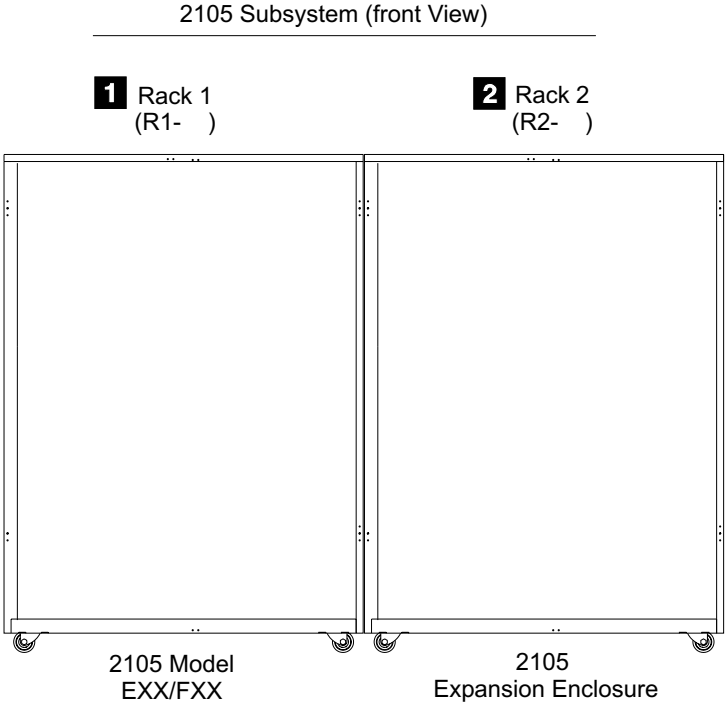
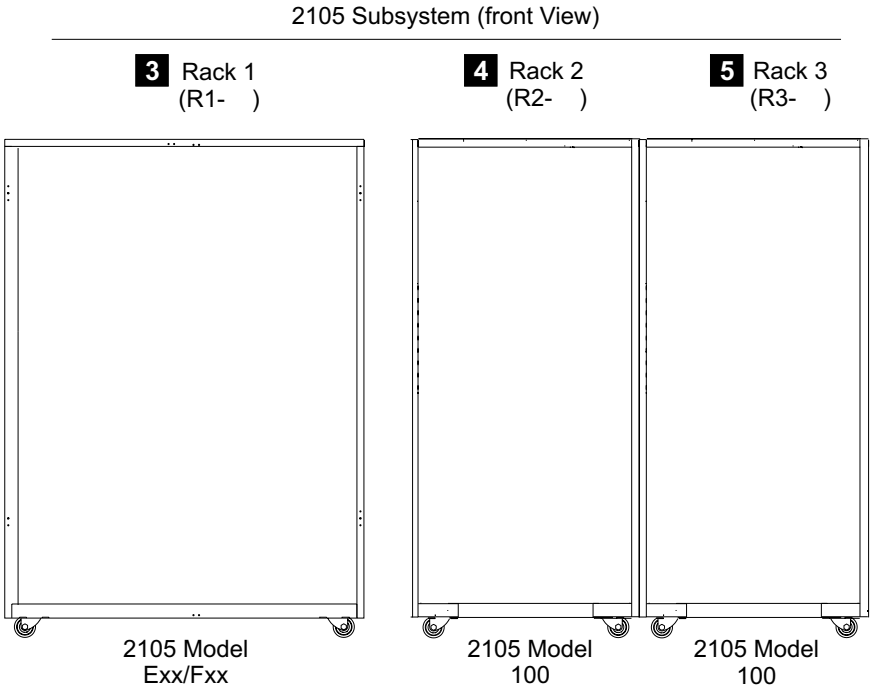

Figure 1. 2105 Model Exx/Fxx and Expansion Enclosure Rack Locations in a Subsystem (S007745n)
Figure 2. 2105 Model Exx/Fxx with attached 2105 Model 100 Racks (S008855n)
1. Record the location code of the DDM bay or SSA DASD Model 020 or 040 drawer you are locating. The first two characters of the DDM bay or SSA DASD Model 020 or 040 drawer location code (**R#-**) indicate what rack they are mounted in. Reference Figure 1 on page 7 and Figure 2 on page 7 the two possible subsystem configurations.